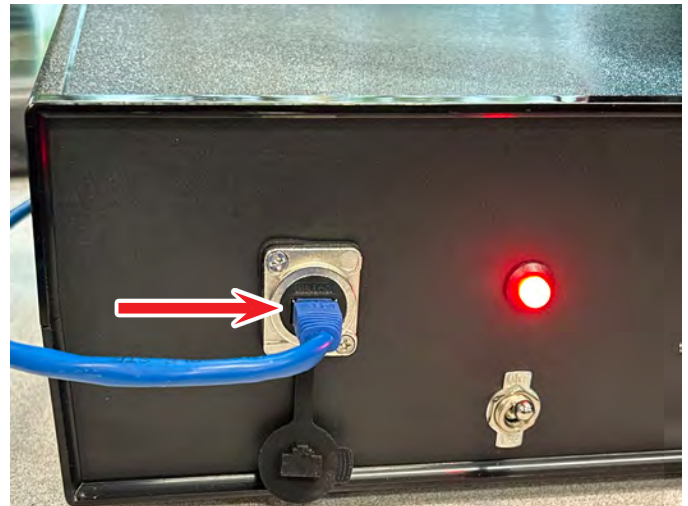

FIGURE 2
5. Now, plug the Ethernet cable into your PC and into the front of the controller (see Figure 2). There is no need to connect anything else at this time.